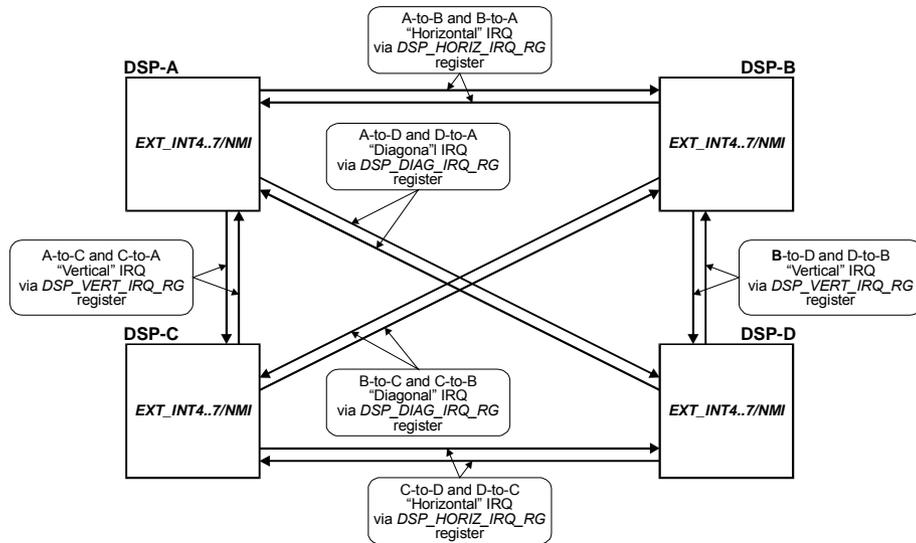

Fig.2-4b. On-board DSP-to-DSP communication topology via DSP-to-DSP interrupt requests for TORNADO-PX64xxQ DSP Coprocessor DCM.
- DSP-to-DSP communication via ‘horizontal’, ‘vertical’ and ‘diagonal’ interrupt requests (fig.2-4b), which are typically used to set DSP-to-DSP ready or attention events without any data message passing. ‘Horizontal’, ‘vertical’ and ‘diagonal’ interrupt requests are used to generate node-to-node interrupt requests with the sender DSP node being exactly identified by the recipient DSP node. Refer to subsection “DSP-to-DSP communication via ‘horizontal’, ‘vertical’ and ‘diagonal’ interrupt requests” later in this section for more details about DSP-to-DSP communication via on-board DSP-to-DSP interrupt requests.
TORNADO-PX64xxQ DSP coprocessor DCM supports DSP-to-DSP communication via DSP-to-DSP interrupt requests as the following (fig.2-4b):